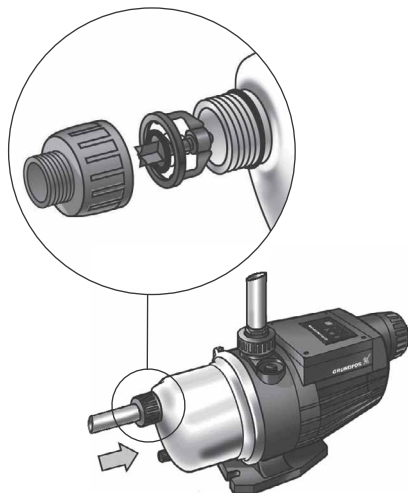

Fig. 10 Fitting of non-return inlet valve
Install the non-return inlet valve as follows, see fig. 10:
2. Fit the non-return inlet valve into the suction port in the direction shown in fig. 10.